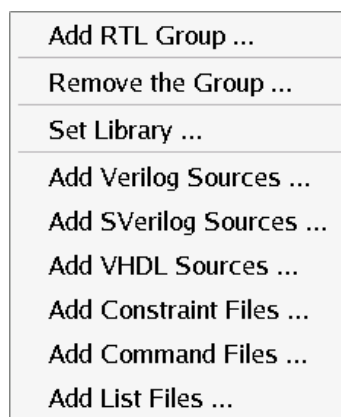
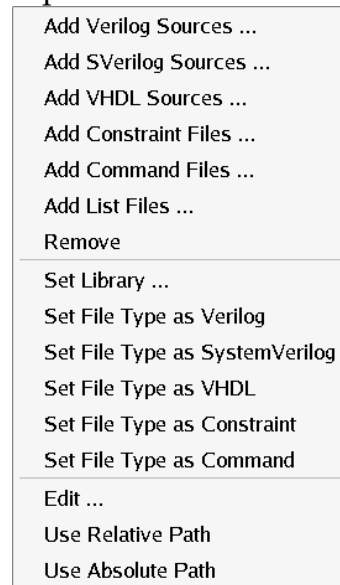

Figure 5:
Figure 6: Contextual menu
In the contextual menu of an RTL source file (see Figure 6), some additional items are available:
- If an inappropriate file has been added, you can remove it with the **Remove** item in its contextual menu (Figure 6).
- If the type of a source file (Verilog, SystemVerilog or VHDL) is not correct, you can change it with the **Set File Type as...** item in the contextual menu of the file (Figure 6). The icon in front of the file name which shows the type of the file is automatically changed in such a case.
- When the content of an RTL source file has to be modified, you can edit the file with vi editor from **zCui** (**Edit...** item in the contextual menu, Figure 6). The editor can be changed in the **Preferences** → **Compiler** panel, as described in the *ZeBu-Server Compilation Manual*.
This default working library can be declared for the entire RTL group and it can be modified on a file-by-file basis. When selecting **Set Library ...** in the contextual menu of the RTL group (see Figure 5) or of a given RTL file (see Figure 6), the same pop-up is displayed: